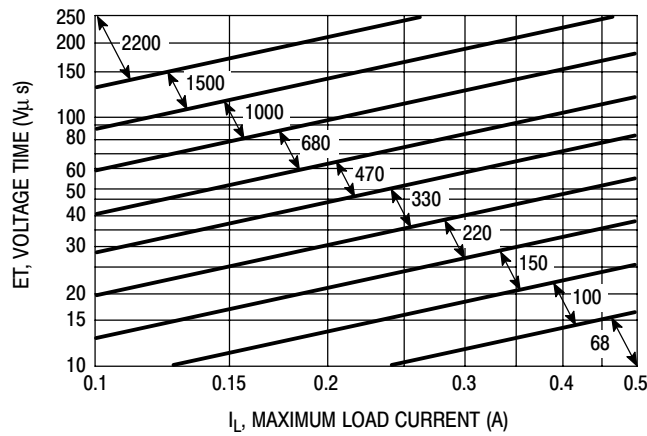

Figure 23. LM2574-ADJ
4. Inductor Selection (L₁) A. Use the following formula to calculate the inductor Volt x microsecond [V x μs] constant: $E \times T = (V_{in} - V_{out}) \frac{V_{out}}{V_{in}} \times \frac{10^6}{F[\text{Hz}]} [V \times \mu\text{s}]$ B. Match the calculated E x T value with the corresponding number on the vertical axis of the Inductor Value Selection Guide shown in Figure 23. This E x T constant is a measure of the energy handling capability of an inductor and is dependent upon the type of core, the core area, the number of turns, and the duty cycle. C. Next step is to identify the inductance region intersected by the E x T value and the maximum load current value on the horizontal axis shown in Figure 27. D. From the inductor code, identify the inductor value. Then select an appropriate inductor from Table 2. The inductor chosen must be rated for a switching frequency of 52 kHz and for a current rating of 1.15 x I_{Load}. The inductor current rating can also be determined by calculating the inductor peak current: $I_{p(\text{max})} = I_{\text{Load}(\text{max})} + \frac{(V_{in} - V_{out})t_{on}}{2L}$ where t_{on} is the “on” time of the power switch and $t_{on} = \frac{V_{out}}{V_{in}} \times \frac{1.0}{f_{osc}}$ For additional information about the inductor, see the inductor section in the “External Components” section of this data sheet.	4. Inductor Selection (L₁) A. Calculate E x T [V x μs] constant : $E \times T = (40 - 24) \times \frac{24}{40} \times \frac{1000}{52} = 105 [V \times \mu\text{s}]$ B. E x T = 185 [V x μs] C. I_{Load(max)} = 0.4 A Inductance Region = 1000 D. Proper inductor value = 1000 μH Choose the inductor from Table 2.